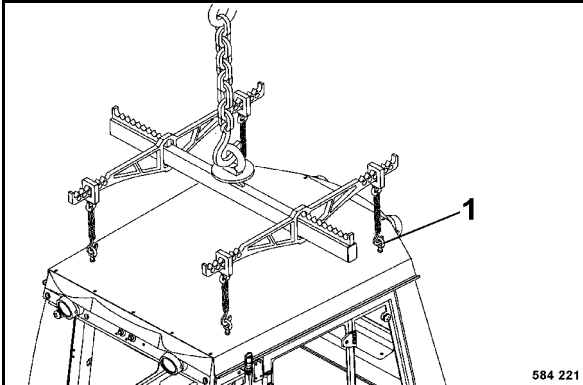

Fig. 205
- Fasten the lifting gear to the four lifting eyes 1 (Fig. 205).